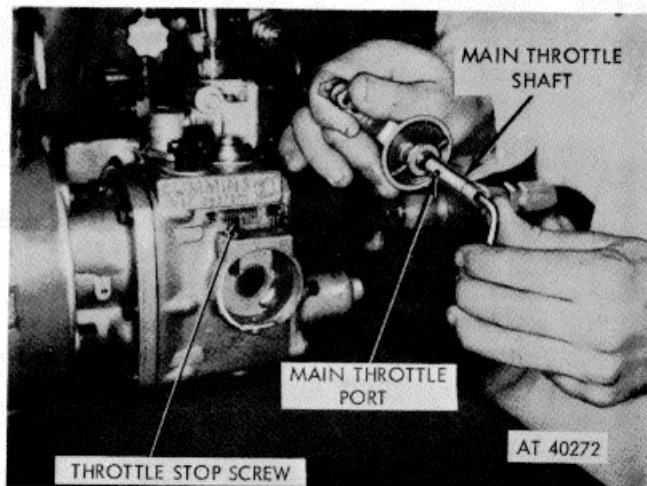

Figure 3-90. Main throttle shaft shim check.
(3) Start test stand motor and run pump at 500 rpm.
(4) If pump is newly rebuilt or has been disassembled and reassembled, run at slightly overrated speed of 3000 rpm for 5 minutes to flush, allow bearings and seals to seat, and to purge air from system.
(5) Check pump fuel flow in the flow meter for air. If air is present, correct the leak before continuing. Refer to paragraph 3-104.d. (8) and (9).
(6) Check main throttle shaft for proper shimming (fig. 3-90) to insure main throttle port is completely open.
(7) Periodically check the fuel to insure that it is 80 to 100 degrees Fahrenheit and clean of all foreign matter.